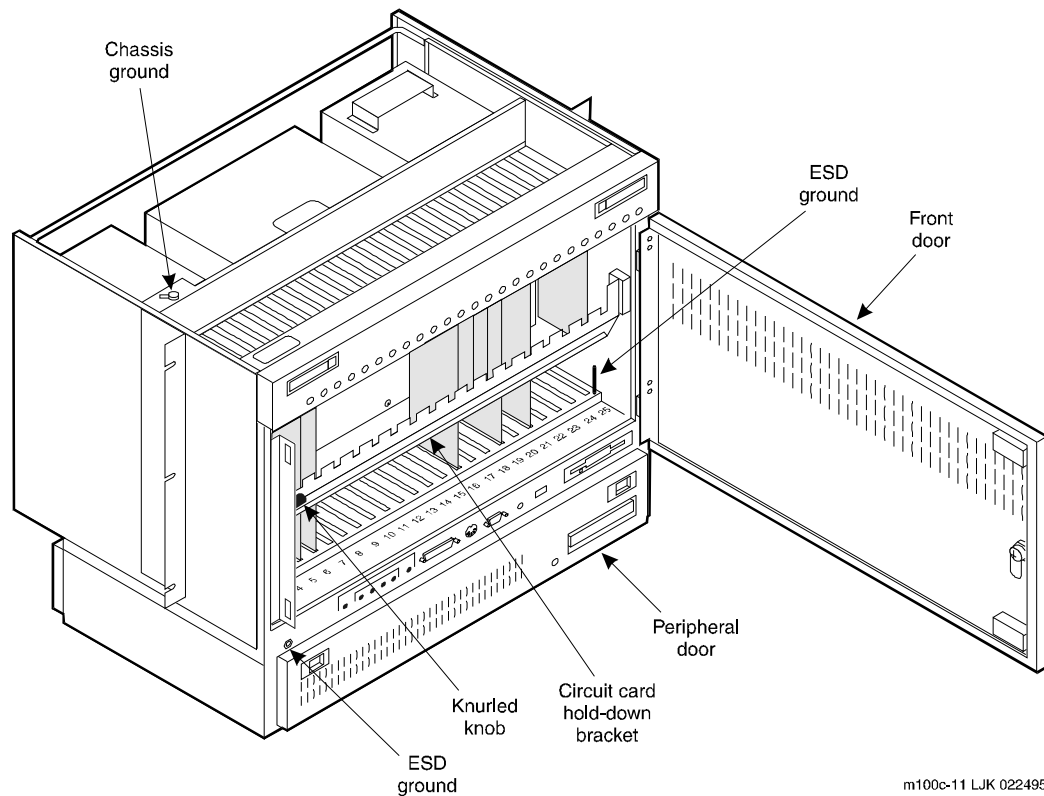

Figure 4-7. MAP/100C Circuit Card Cage
3. Swing the door open as far to the right as possible (Figure 4-7).